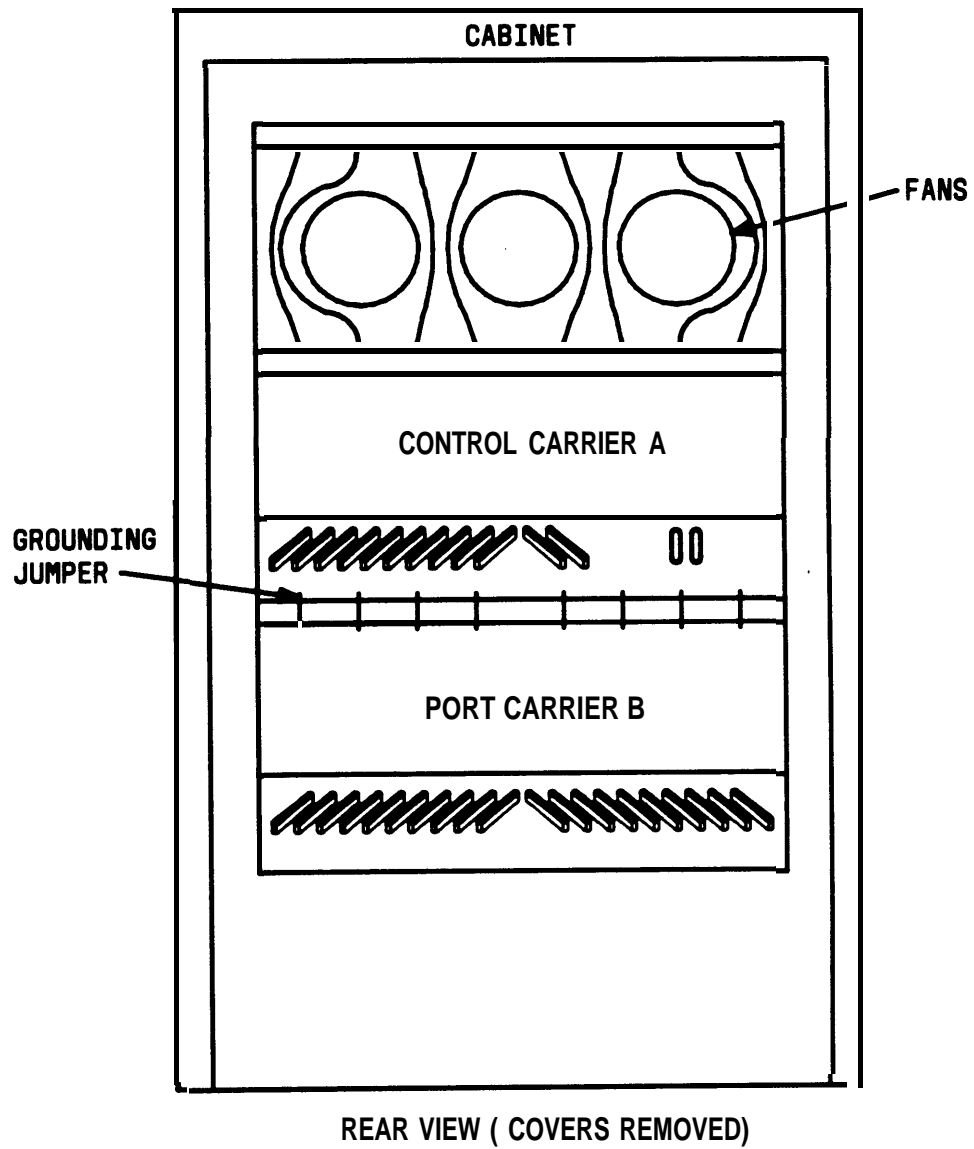

Figure 28. Grounding Jumper Locations (I-Port Carrier)
7. Install eight grounding jumpers from the adjacent backplane to new carrier backplane wiring (Figures 28 and 29).